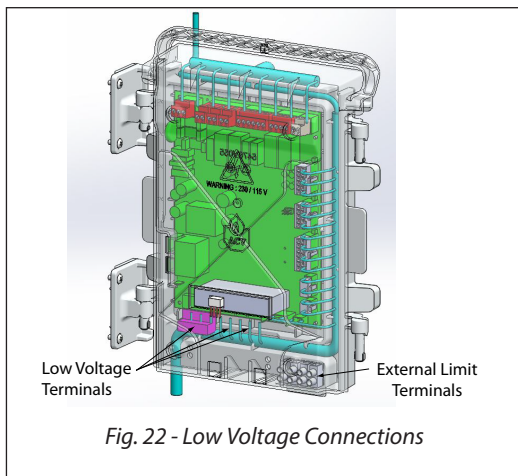

Fig. 22 - Low Voltage Connections
1. Connect the room thermostat or dry contact zone valve end switch wires to low voltage terminals X6-3&4 or X5-5&6 located at the bottom of the CTRLMax control module as shown in *Fig 22 below*.
1. Connect the DHW aquastat or temperature sensor wires to low voltage terminals X4-1&2 located at the bottom of the CTRLMax control module as shown in *Fig. 22 on page 36*.
3. Connect the external limit wires to the Manual Reset Limit or Auto Reset Limit low voltage terminals located on the lower right corner of the CTRLMax control module housing as shown in *Fig. 22 on page 36*.
1. Connect the system temperature sensor wires to low voltage terminals X5-3&4 located at the bottom of the CTRLMax control module as shown in *Fig. 22 on page 36*.